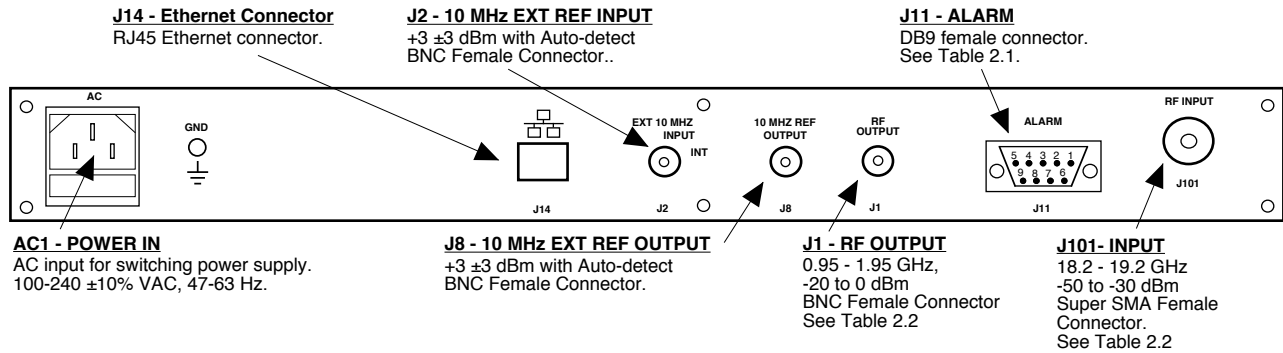

FIGURE 2.1 3116-182 Rear Panel I/O's
Figure 2.1 shows the input and output connectors on the rear panel.
1. Connect a -55 dBm to -35 dBm signal to RF IN, J101 (Figure 2.1).